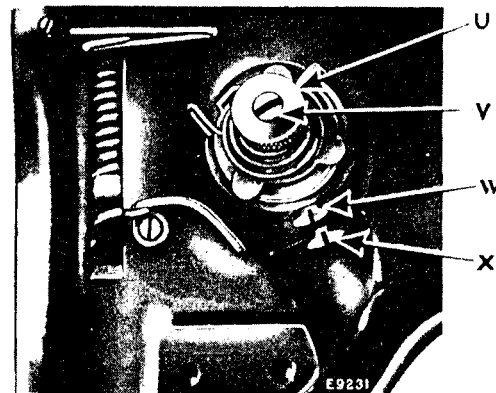

Fig. 19. Adjustment of Thread Controller
The tension on the needle thread is regulated by the thumb nut (U, Fig. 19) at the front of the tension discs on the front of the machine. To increase the tension, turn this thumb nut over to the right. To decrease the tension, turn the thumb nut over to the left.
To change the thread controller stop for more controller action on the thread, loosen the set screw (W, Fig. 19) and turn the thread controller spring stop to the right; for less action, turn the thread controller spring stop to the left, after which securely tighten the set screw (W).
To increase the tension of the thread controller spring on the thread, loosen the tension stud set screw (X, Fig. 19), located under the tension stud, and turn the tension stud (V, Fig. 19) slightly to the left with a screwdriver, or to decrease the tension, turn it to the right and retighten the stud set screw (X).